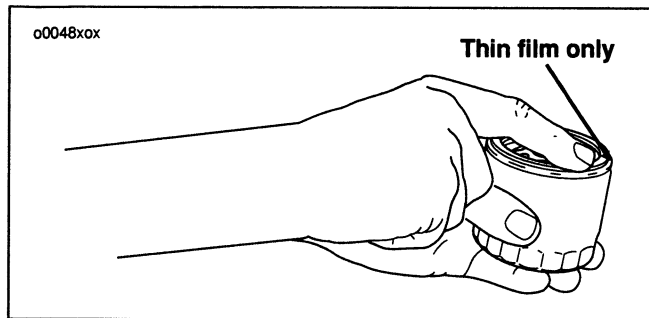

Figure 42. Applying Thin Oil Film
5. See Figure 42. Apply a thin film of oil to gasket contact surface on mounting plate, gasket and new oil filter.